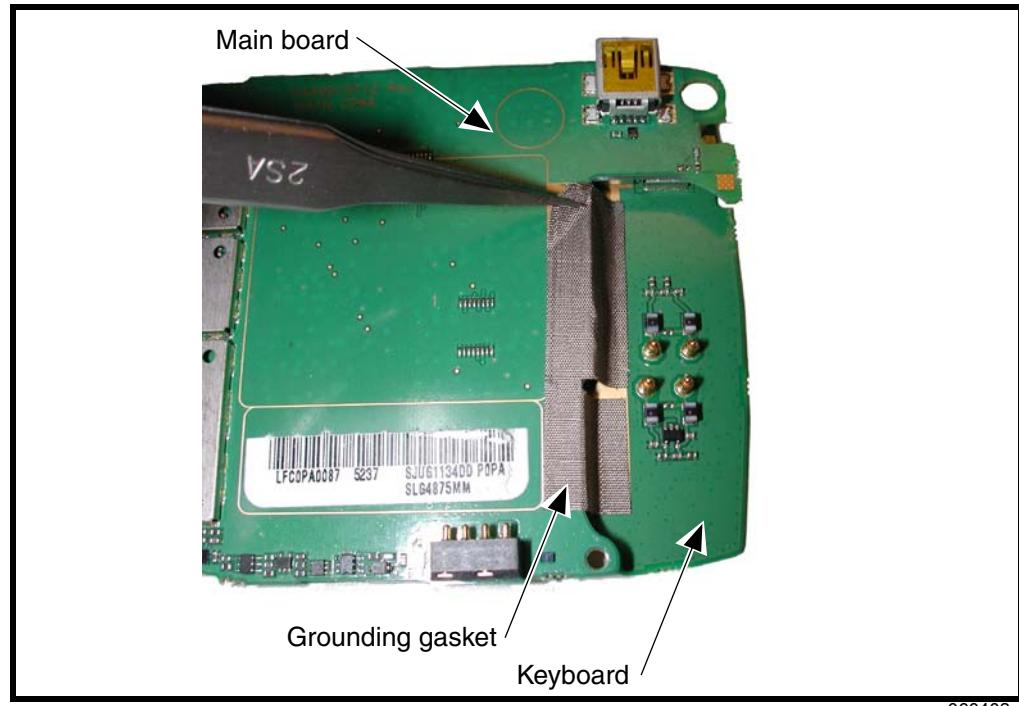

Figure 17. Removing the Grounding Gasket
2. Use the metal tweezers to remove the grounding gasket from the main board and keyboard (see Figure 17).